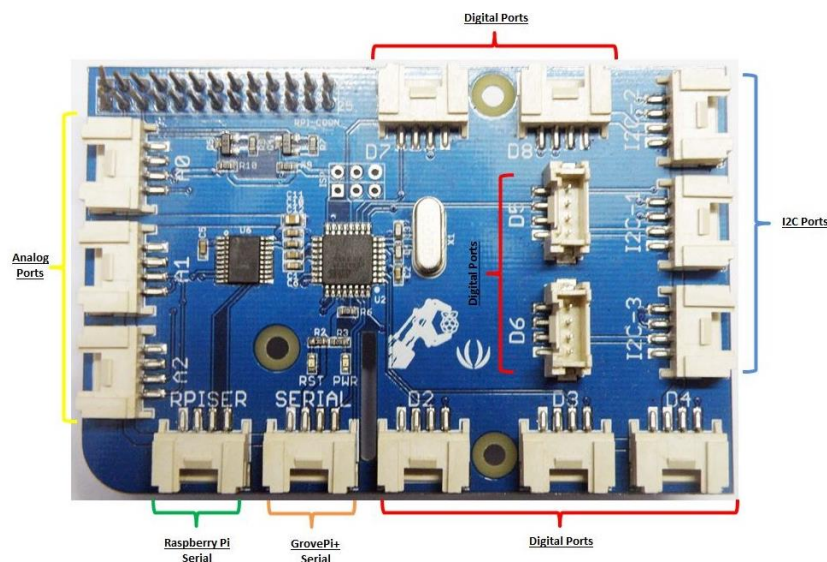
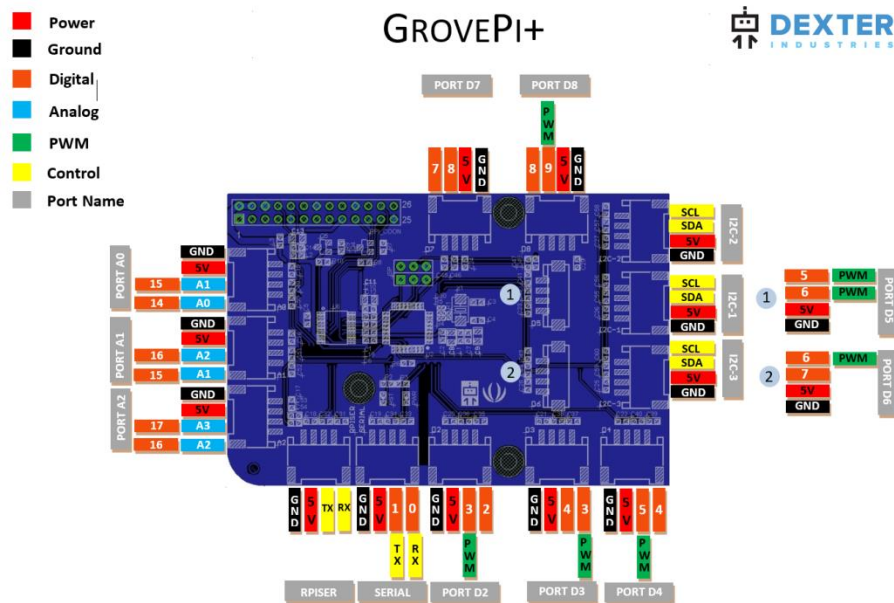

Figure 1: GrovePi Port Layout Diagram
Figure 2: GrovePi Pinout Diagram
The RPi contains communication buses which enable the connection between the sensors and the GrovePi ports. There are two bus port types: (a) an I²C Bus and (2) a Serial Bus as shown in Figure 1.
The **pinMode()** method is used to control the pin as an INPUT or OUTPUT mode. The methods **AnalogRead** and **DigitalRead** read data from various GrovePi sockets depending on the type. For example, **AnalogRead(2)** will cause the ATMEGA328 microcontroller to read from socket labeled A2 (Figure 2). The GrovePi board contains **seven** digital ports (D2-D8), **three** analog ports (A1-A3) and **three** I2C ports (I2C-1 – I2C-3) as shown in Figure 1. GrovePi sockets (or ports) labeled D2-D8 are all digital and support 1-bit input/output values (0-1) using **digitalRead()** and **digitalWrite()** methods. The GrovePi sockets (or ports) labeled **D3**, **D5** and **D6** support **Pulse Width Modulation (PWM)** which enables writing 8-bit values (0-255) with **analogWrite()**. The **analogRead()** method is associated with analog sockets (A0, A1, and A2) and will not work with digital sockets (e.g. D2-D8). Similarly, **digitalRead()** method will only read from digital sockets (e.g. D2-D8). Not all GrovePi modules or sensors can be connected to analog, digital or I2C ports.